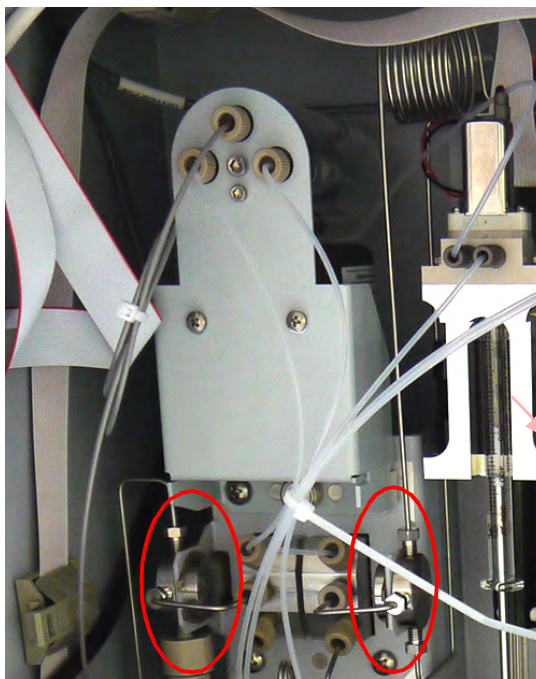

Figure 63: Stream Splitters and Valves
- Check to make sure there are no leaks in the DI system, especially at valves and the stream splitters (Figure 63).